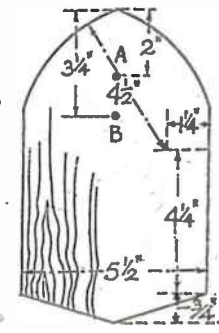
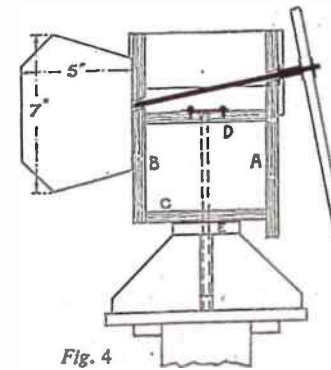

Fig. 6
Fig. 4
and 5. All the measurements are given for the front and the back (A and B) but it must be observed that the lower edge of (A) is brought to a point, whereas that of the back is straight. Note also in Fig. 6 that the holes for the sail bar are differently placed, hole (A) being in the front and hole (B) in the back. This is further explained in Fig. 4. Pieces (C) and (D) are identical in size, and over the centre hole of piece (D) is fixed a metal disc to act as a rest plate for the pivot below.